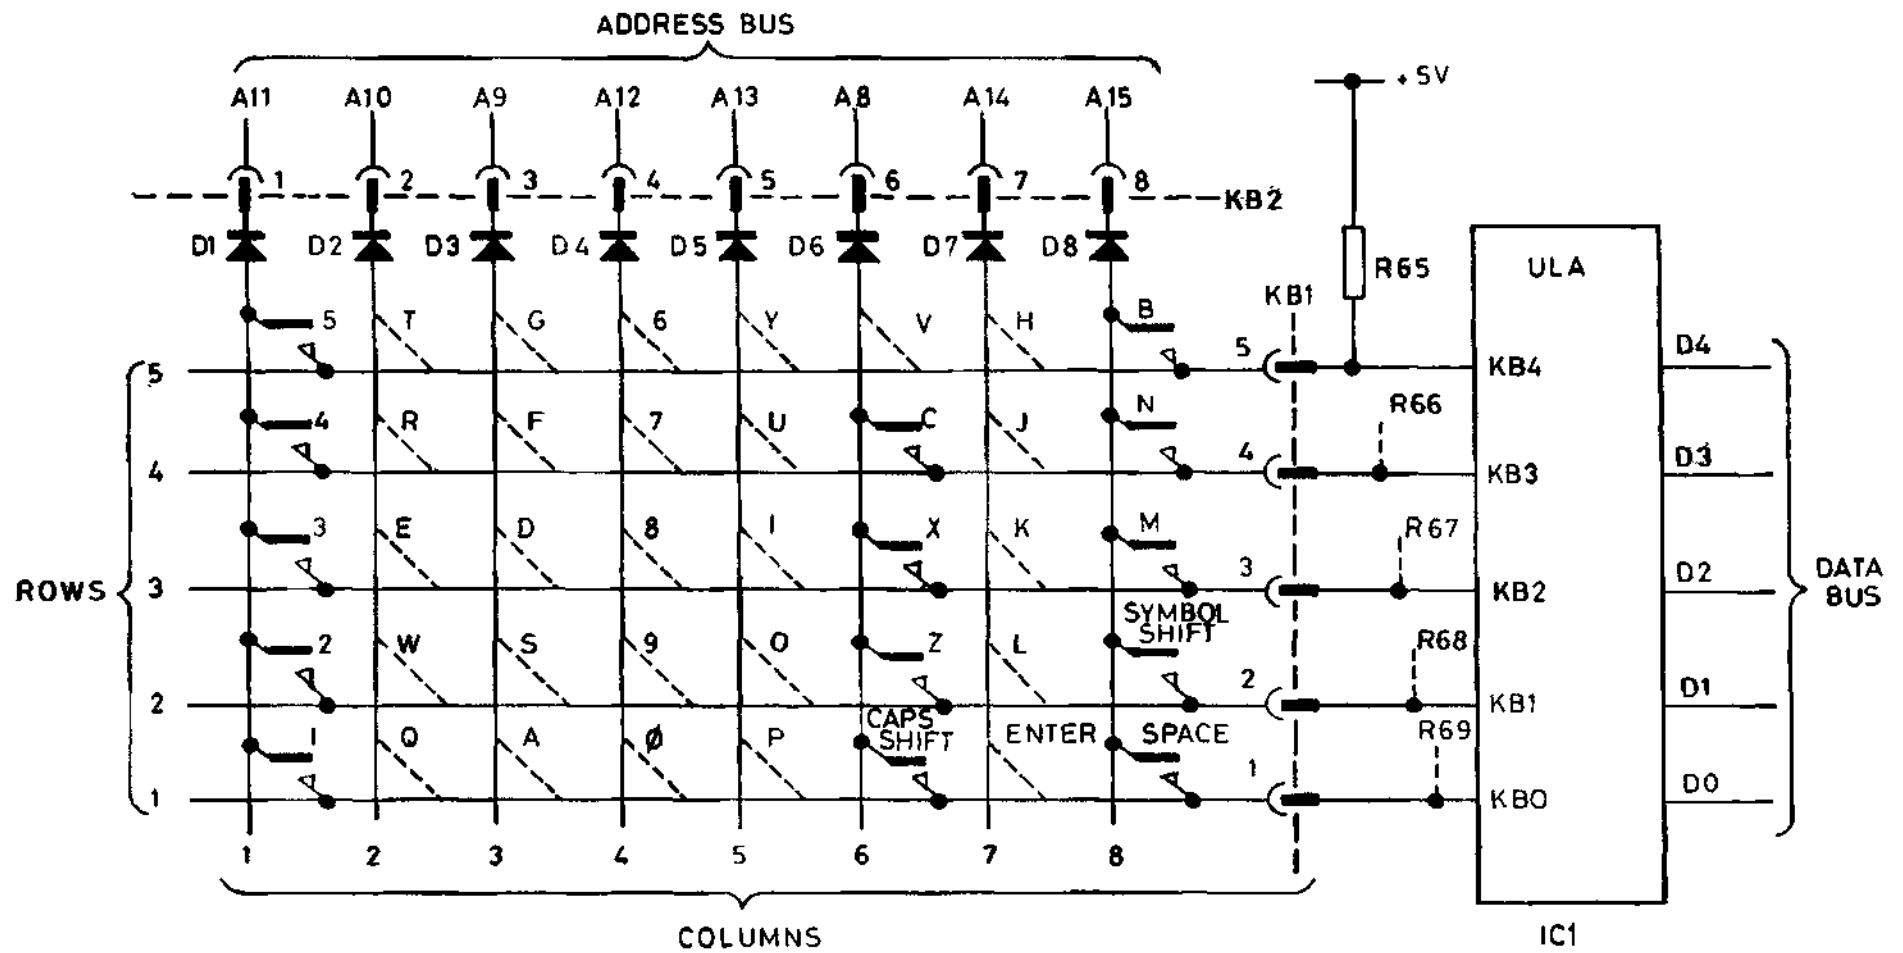

FIG 1.3 KEYBOARD MATRIX INTERCONNECTIONS
- 5.3.1 Every 20 ms (i.e. once per maskable interrupt), the CPU systematically scans the keyboard recording which 'keys' (if any) have been pressed. The scanning method is described below with the aid of Figure 1.3. As the figure clearly illustrates the keyboard consists of an 8 x 5 matrix, the inter-section of each row and column bridged by a normally open switch contact. The row 'outputs' and column 'inputs' are shown connected by separate ribbon cables KB1 and KB2, one to the ULA and the other to the high order address lines A15-A8. Pull-up resistors R64 through R68 ensure that when the address bus is in the high Z state, or none of the key-switches is closed, row outputs KBO to KB4 remain high.